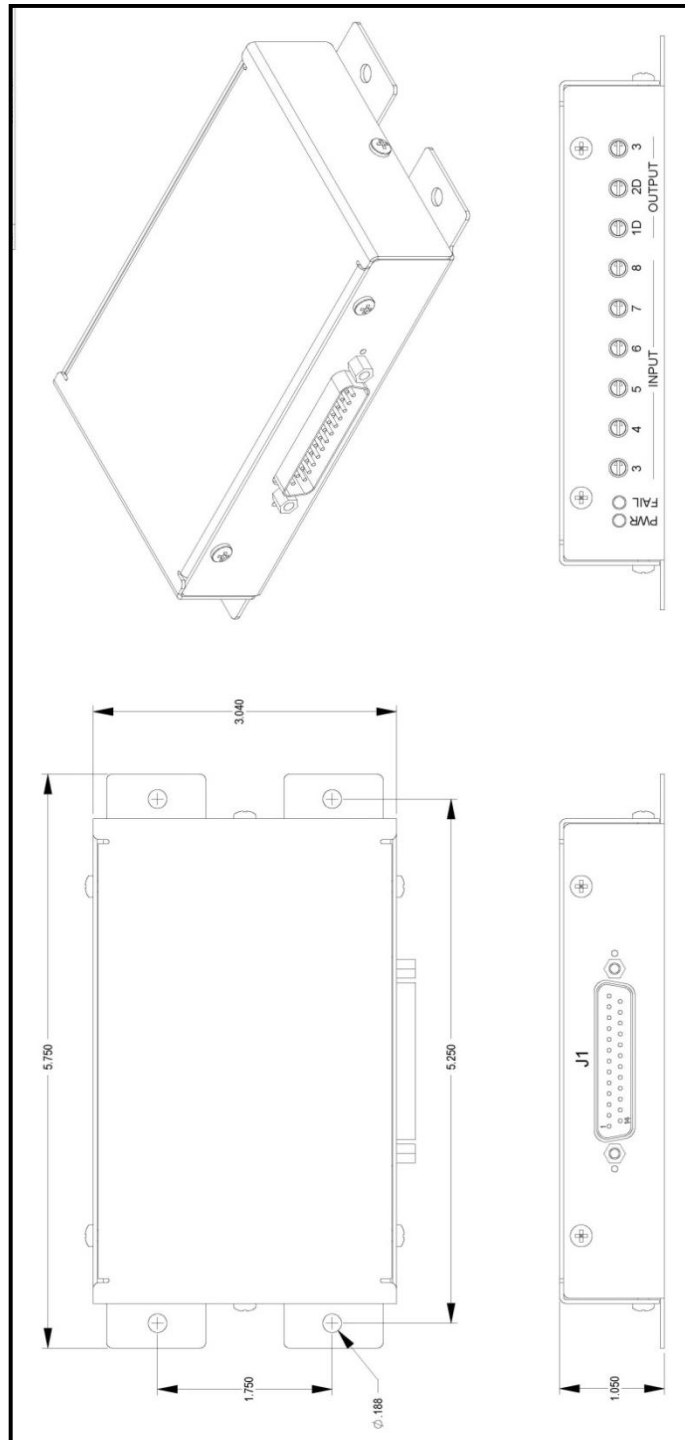

Figure 18: G13120 Audio Mixer
- b. The exact mounting location is left to the installer's discretion provided that the installation of the Audio Mixer does not interfere with other equipment installed. Refer to Figure 18 for laying out mounting holes.
- c. Mount the Audio Mixer using (4) #8-32 screws, washers and locknuts or nutplates. When mounting into composite structure, #8-32 potted inserts should be used.